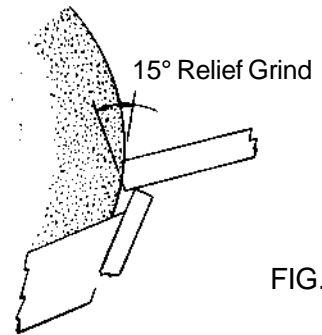

FIG. 34
- C. There are two (2) hand knobs to loosen. They are located on the base of the adjusting arms. Raise the grinding wheel up (approximately 7 turns) so the reel blade can rest on the reel guide finger. It will be necessary to infeed the grinding wheel to accomplish this. See FIG. 34.